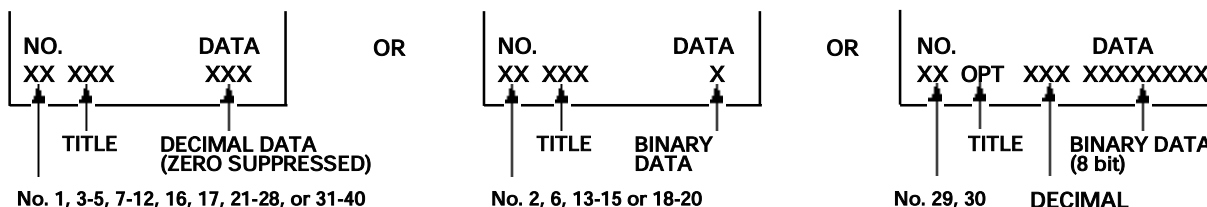

Figure 1. Service Menu Display
- While pressing the MENU key, reconnect the AC power cord. The Service Menu Display will now appear. (See Figure 1